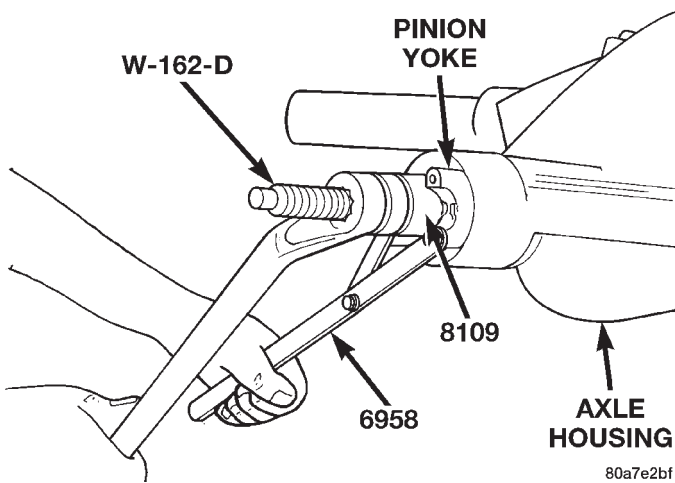

Fig. 48 Pinion Yoke Installation
(8) Install yoke with Installer W-162-B, Cup 8109, and Holder 6958 (Fig. 48).
(9) Install the pinion washer and a new nut on the pinion gear. Tighten the nut to 216 N-m (160 ft. lbs.) minimum. **Do not over-tighten.** Maximum torque is 352 N-m (260 ft. lbs.).